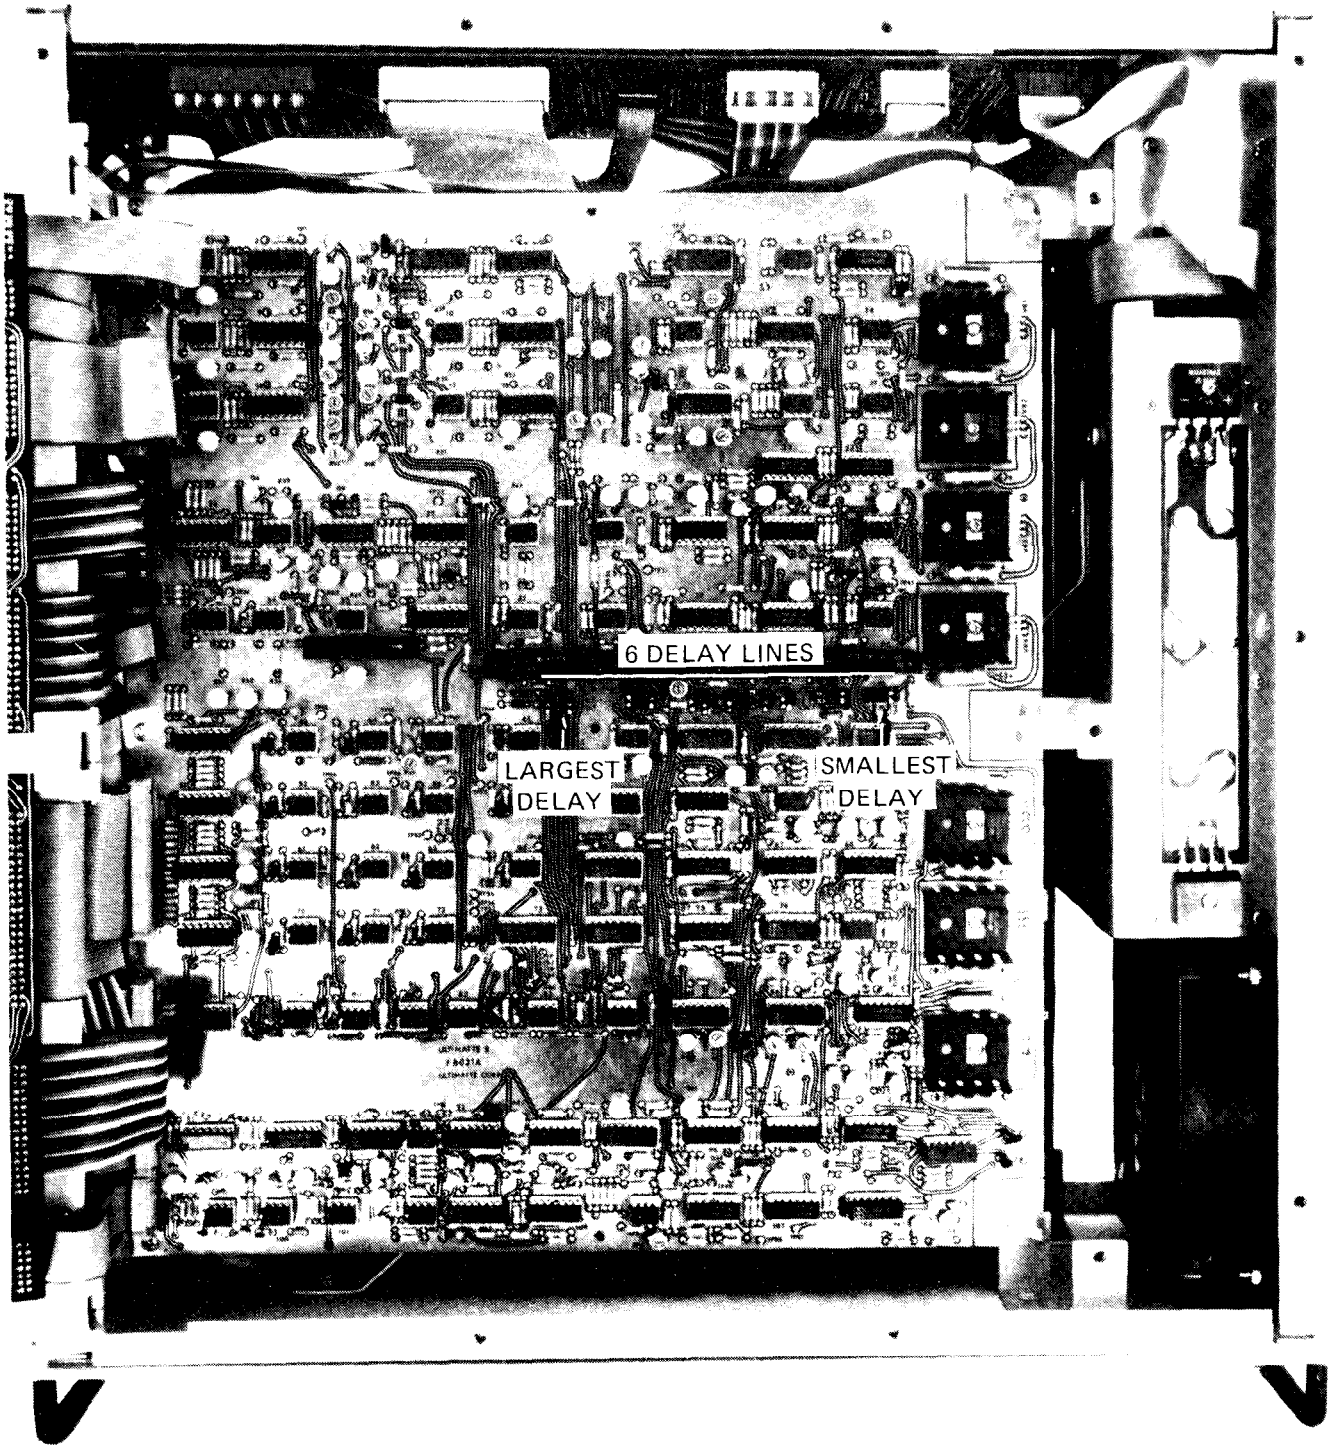

Figure 2-9. Circuit Board F8021
- c. Adjust the six delay lines (figure 2-9) by simultaneously moving both input and output jumpers on each delay line from OUT to IN or vice versa.
The delay line on left of figure 2-9 will have the greatest effect; the one on the right (with only one jumper) will have the least effect on the output.